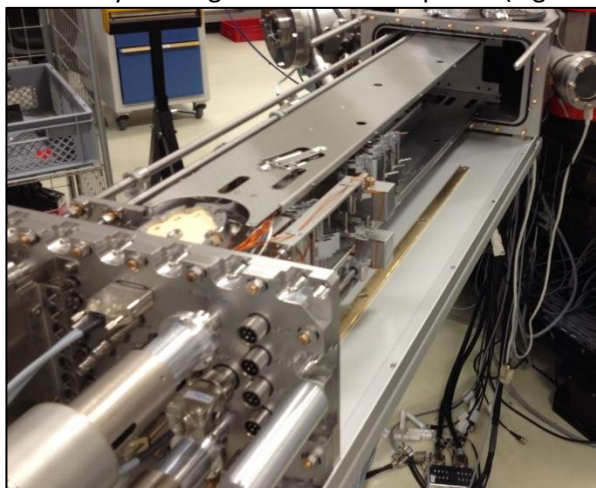

Figure 441: Multicollection out of its chamber
- Unscrew the multicollection flange (the Figure 441 shows the bolts which needs to be
- Pull the multicollection out by holding the handles to open in (Figure 441).